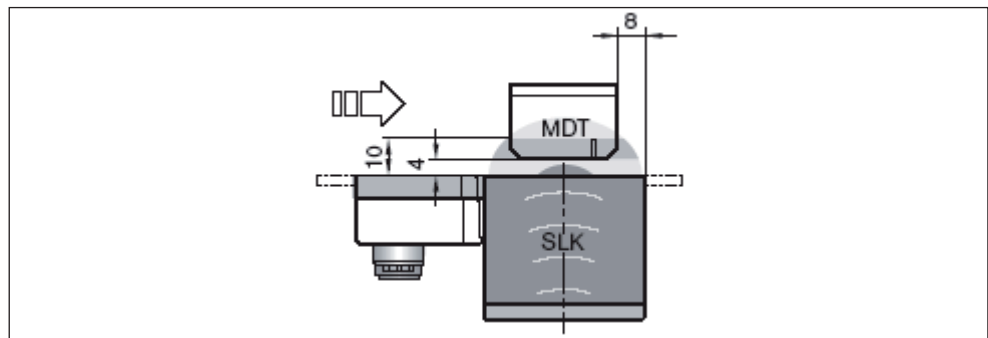

Fig. 6: Alignment of ID 40/MDT for frontal reading and writing
- **Horizontally**, as shown in Fig. 6. This is the optimal mode.